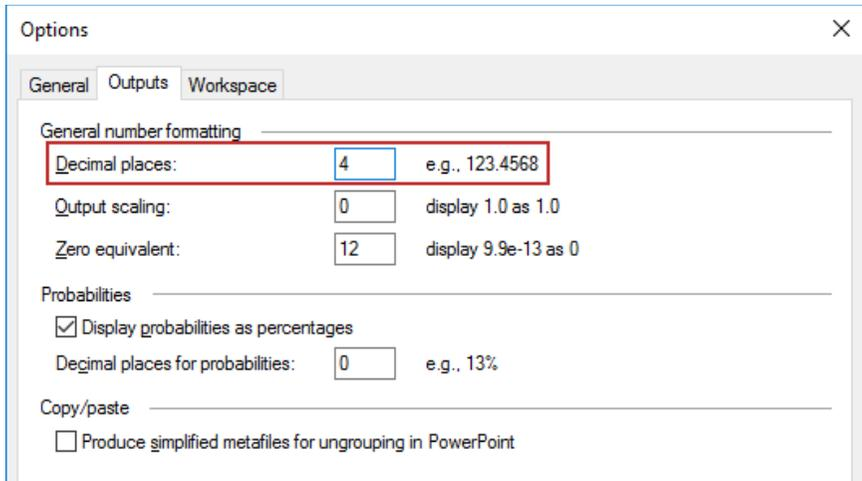

Figure 3-13. Increasing Number of Decimal Places for Outputs in File | Options | Outputs
- ⇒ Under the General number formatting heading, change number of decimal places to "4" as shown in Figure 3-13.